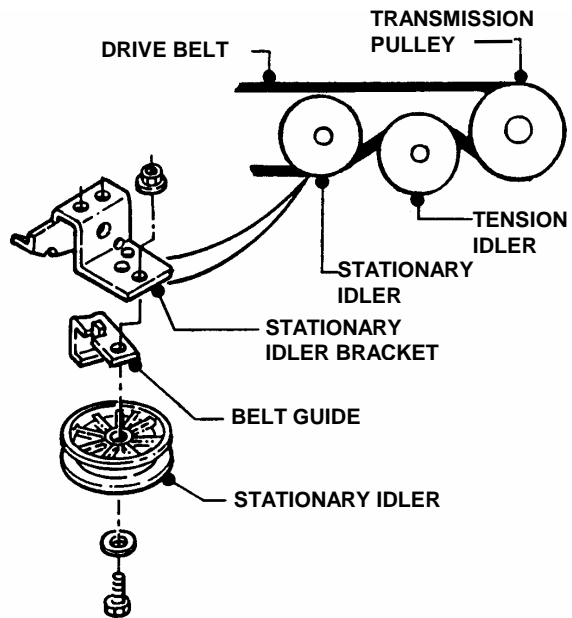

FIGURE 4.29
- Route belt through stationary and tension idlers. See Figure 4.29.
NOTE: When installing a new belt, make certain the stationary idler is mounted in the hole closest to the L.H. side of the tractor. See Figure 4.29.